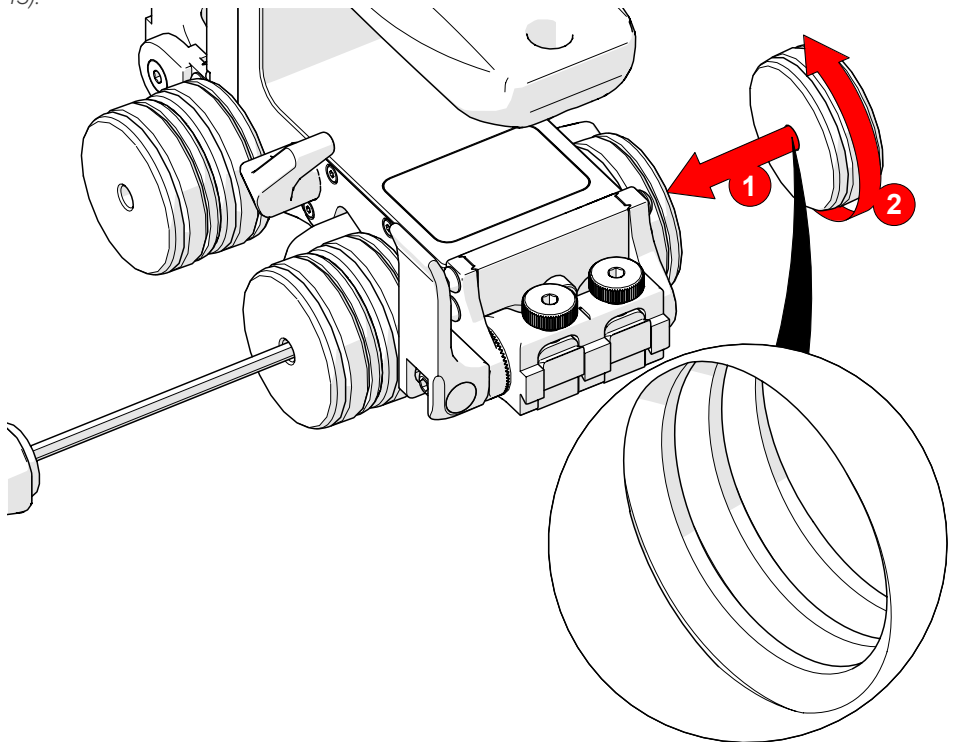

Fig. 67 - Magnetic wheel kit
An additional magnetic wheel kit can also be used on the cart body, thus doubling the magnetic force (Fig. 67).
2. On the magnetic wheel to be attached, locate the threaded side of the magnetic wheel, and orient the threaded side towards the cart (Fig. 67).